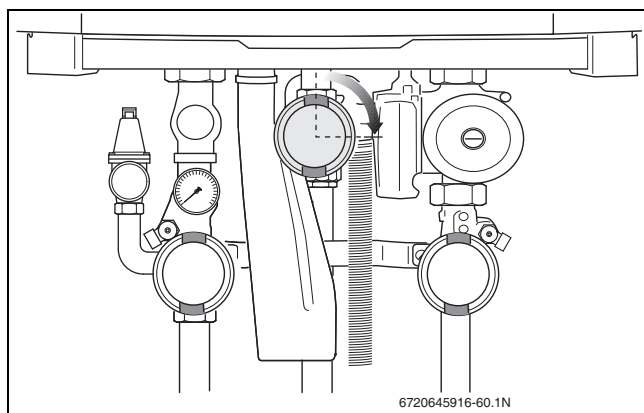

Fig. 64 Closing the gas valve
- ▶ Close the gas valve in a clockwise direction (→ fig. 64).